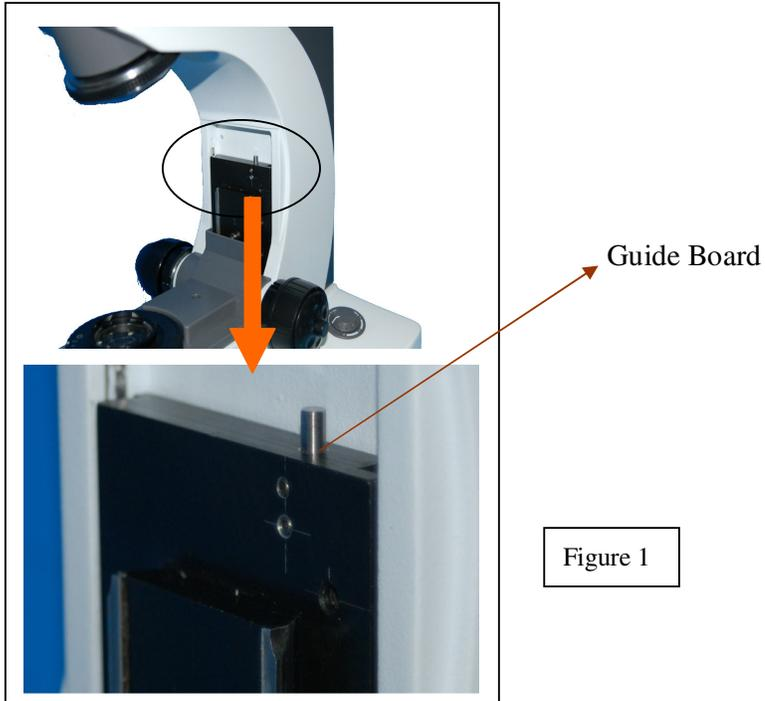
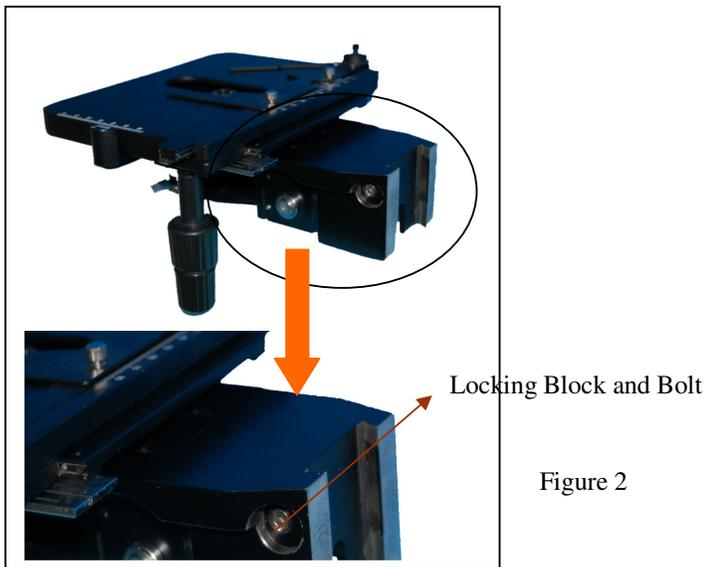

Figure 1
Figure 2
1. Before installing the mechanical stage mounting device, be sure to adjust the coarse focus knob until the guide board (Figure 1) is at its lowest position. This allows you to install the mechanical stage easily. Use the 3.0mm hexagonal Allen wrench to connect the mechanical stage mounting support assembly and the guide board. Ensure the connection is tight and secure.
2. Place the mechanical stage mechanical assembly (Figure 2) onto the top of the guide board (Figure 1). Ensure the assembly (Figure 2) is completely attached to the guide board before tightening the allen screw.